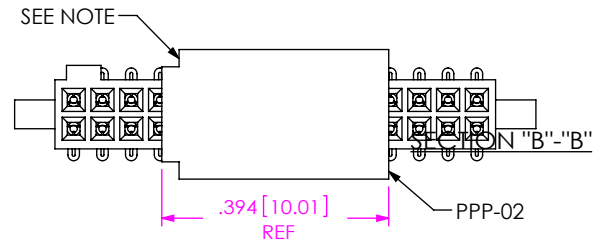

FIG 5
- P: PICK AND PLACE PAD (SEE FIG 5, SHT 2) (AVAILABLE ON 5 THRU 50 POSITION ONLY)